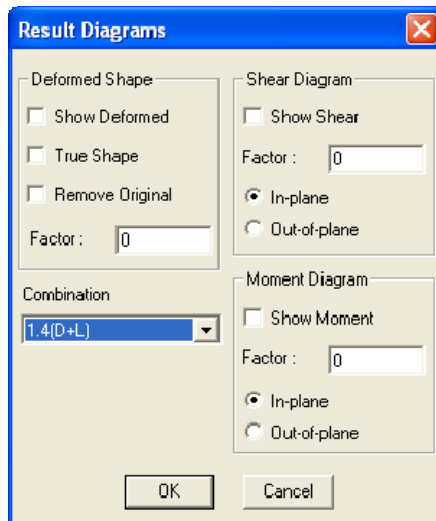

Figure 3-50 Results Diagrams dialog box
- From the Show menu, select Result Diagrams. The dialog box of Figure 3-50 appears.